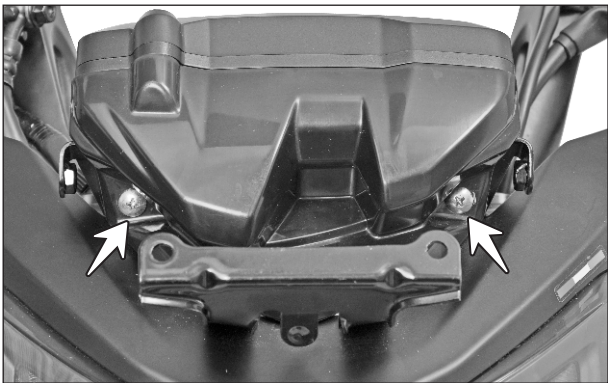

Fig. 5.50
- Remove the CRR pan head screw (M5x16 - 2 nos.) from the housing speedometer rear mounting and remove the housing speedometer rear. (Fig. 5.50)